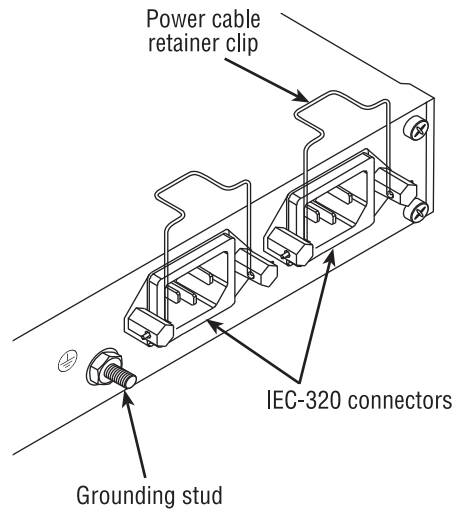

Figure 11. IEC-320 connector and grounding stud locations
2. Install the grounding wire between the grounding stud (see figure 11) and the grounding source.
1. Install the power cable into an IEC-320 connector (see figure 11 on page 33). The AC mains socket outlet shall be within 1 foot (3 meters) of the equipment and shall be easily accessible.